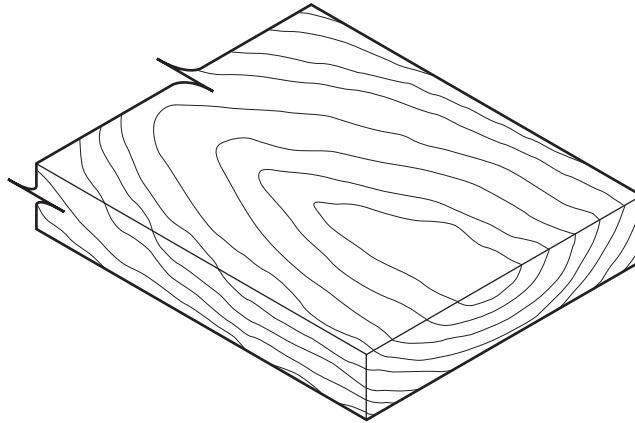

Fig. 2
- 3 Fig. 2 shows a board which has been converted from a log.
On Fig. 2 show how the following defects would appear on the board.